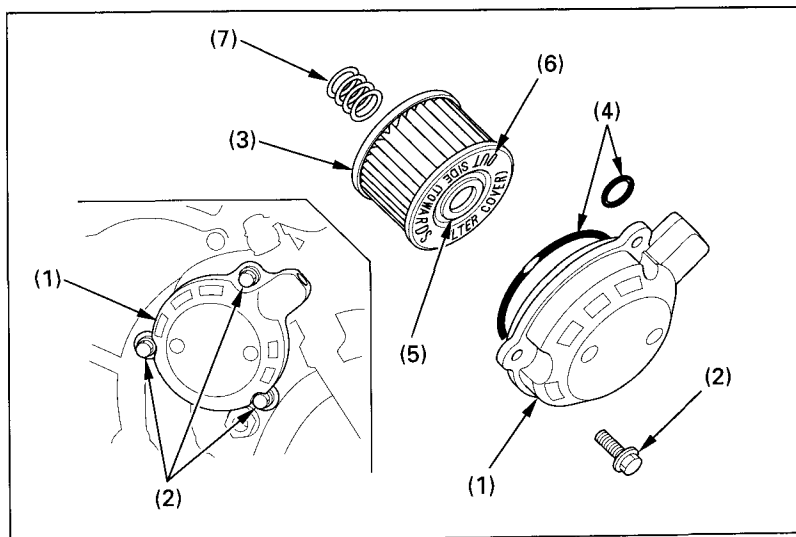

Fig. 4-14
(1) Oil drain plug
3. Remove the oil filter cover (1) (Fig. 4-14) by removing the bolts (2). Let the remaining oil drain out. Discard the oil filter (3).
4. Check that the oil filter cover O-rings (4) are in good condition and then install a new oil filter. Use only the Honda genuine oil filter or a filter of equivalent quality specified for your model. Using the wrong Honda filter or a non-Honda filter which is not of equivalent quality may cause engine damage.
5. Install the filter with the rubber seal (5) facing out, away from the engine. You will see the "OUTSIDE (TOWARDS FILTER COVER)" mark (6) on the filter body, near the seal.